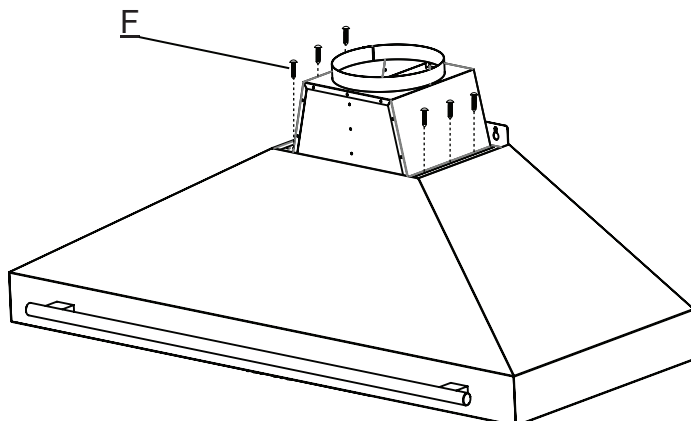

Figure 5.
8. Install the air outlet adapter over the hood using the provided M4 $\times 0.472"$ screws (F). Figure 5.